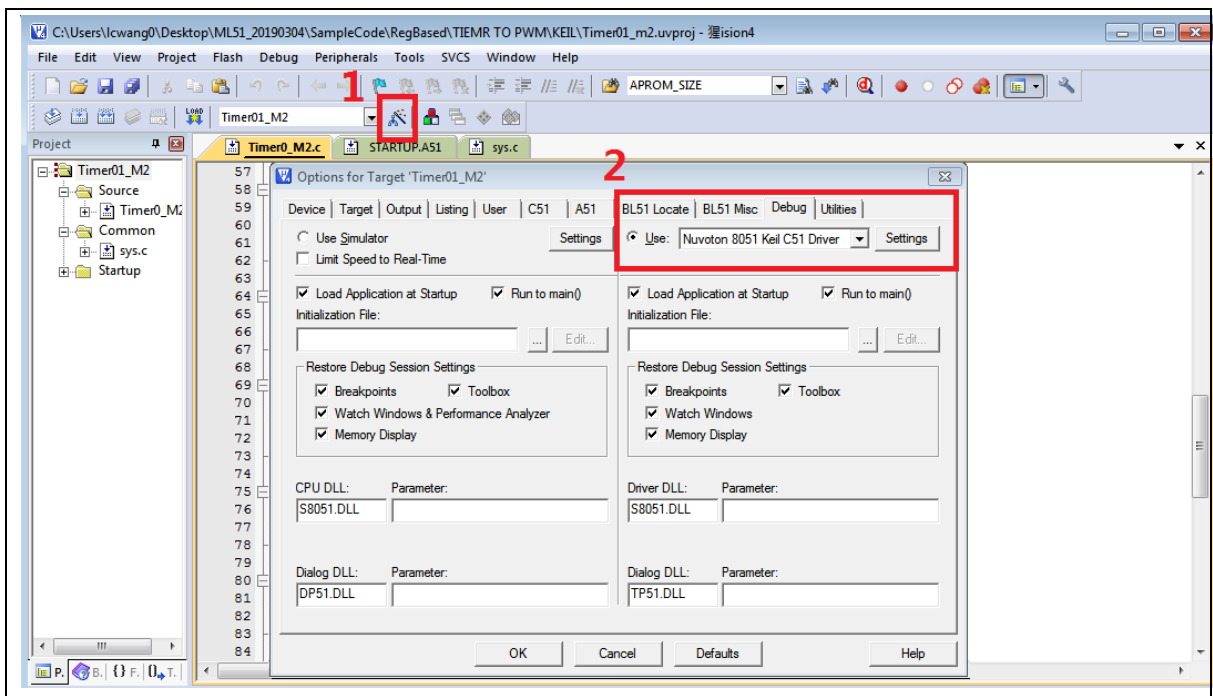
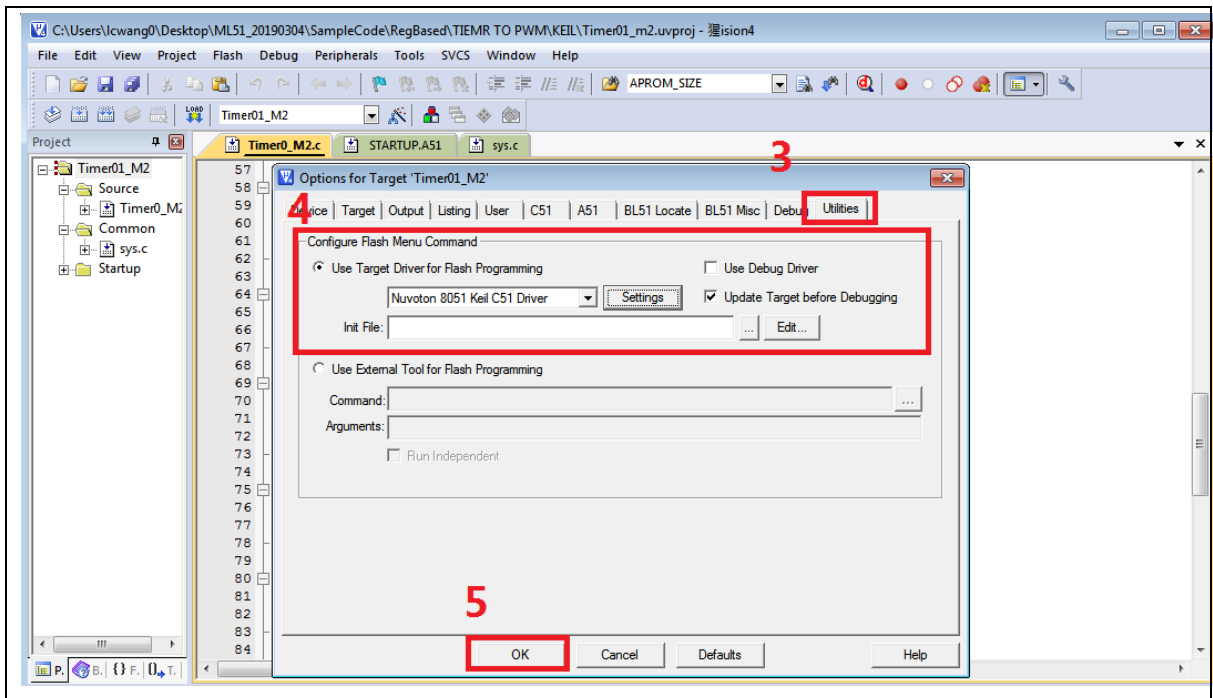

Figure 3.6-2 Debugger Setting in Options Window
Figure 3.6-3 Programming Setting in Options Window
1. Make sure the debugger is “Nuvoton Nu-Link Debugger” as shown in Figure 3.6-2 and Figure 3.6-3.
Note: If the dropdown menu in Figure 3.6-2 does not contain “Nuvoton Nu-Link Debugger” item, please rework section 3.6.1.